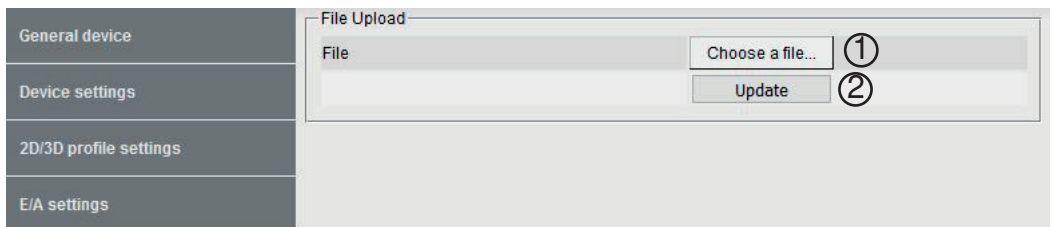
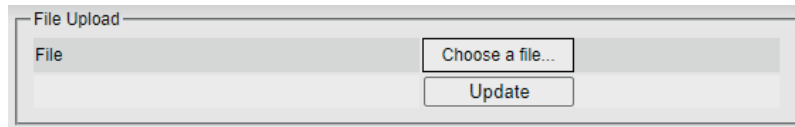

Fig. 68: Start window update process
Fig. 70: Update process finished
Then acknowledge by clicking „Update“ (2) and wait until updating has been completed (see Fig. 68 ... Fig. 70).